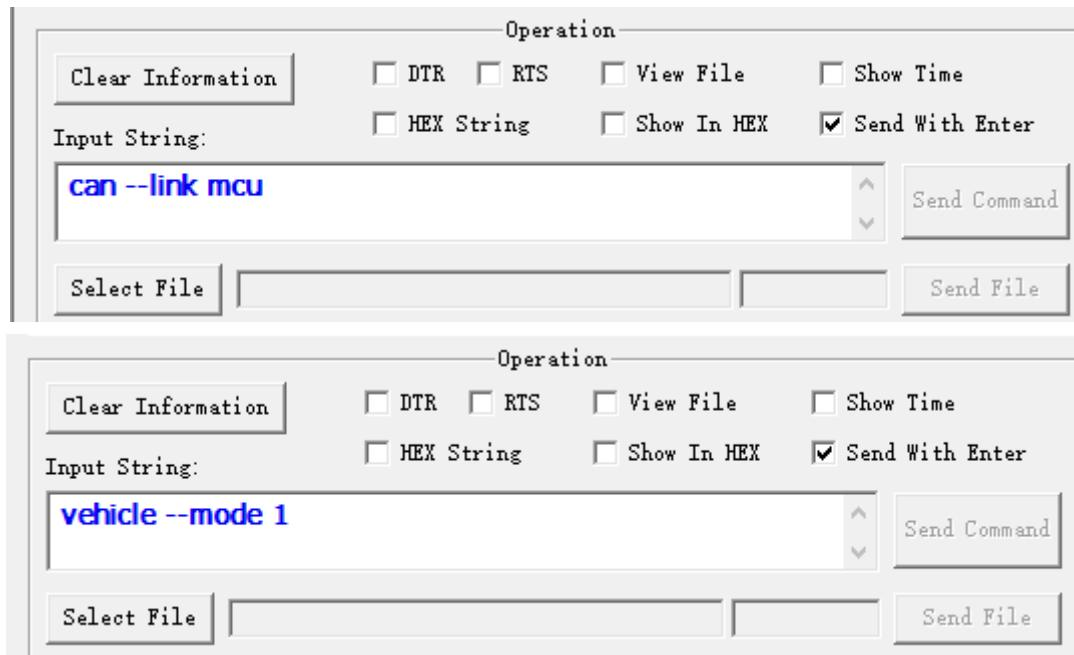

Figure 17: Command Sending
Step 3: Enter `can --link mcu` and `vehicle --mode 1` commands in the command window and send them to EVB, as shown in Figure 17: Command Sending. If a configuration is successful, an “**ok**” will be returned.